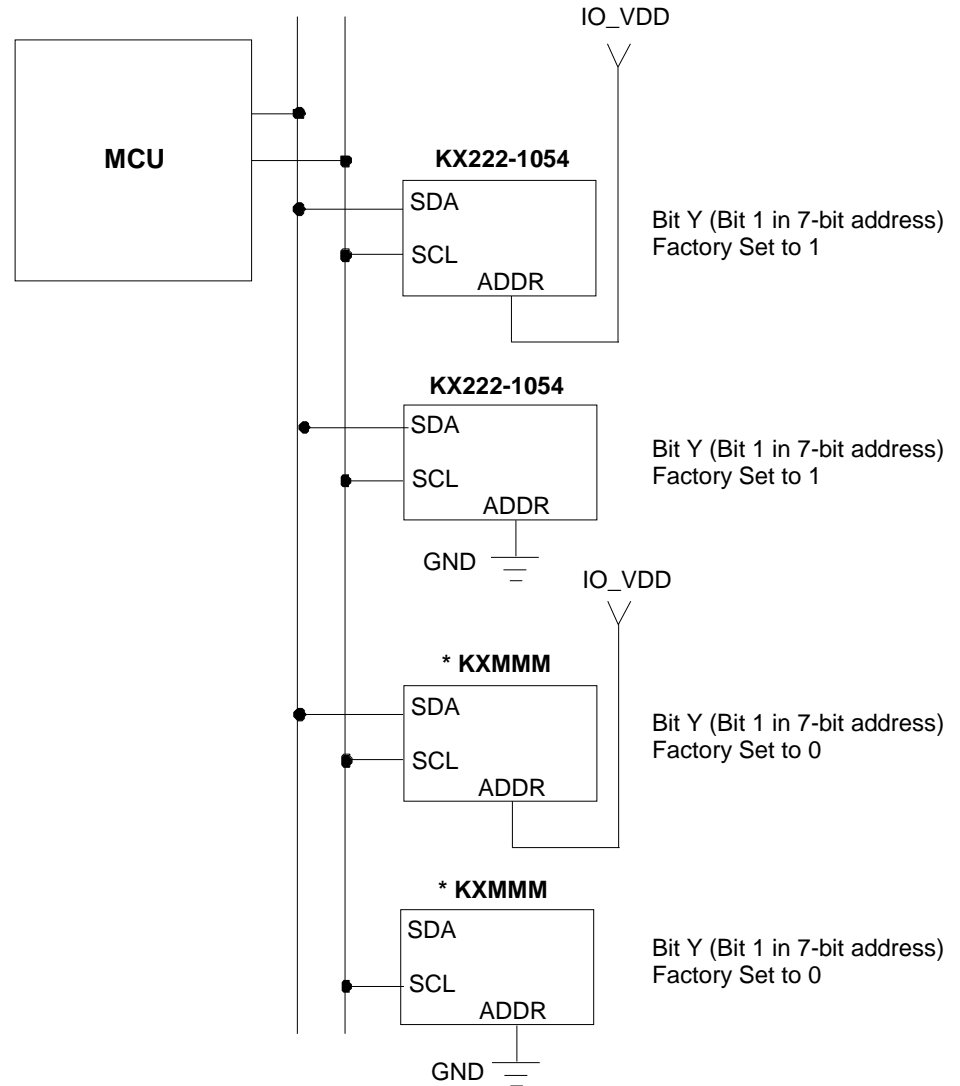

Figure 1: Multiple KX222 Accelerometers on a Shared I²C Bus
Transactions on the I²C bus begin after the Master transmits a start condition (S), which is defined as a high-to-low transition on the data line while the SCL line is held high. The bus is considered busy after this condition. The next byte of data transmitted after the start condition contains the Slave Address (SAD) in the seven MSBs (Most Significant Bits), and the LSB (Least Significant Bit) tells whether the Master will be receiving data ‘1’ from the Slave or transmitting data ‘0’ to the Slave. When a Slave Address is sent, each device on the bus compares the seven MSBs with its internally stored address. If they match, the device considers itself addressed by the Master. The KX222 Slave Address is comprised of a user programmable part, a factory programmable part, and a fixed part, which allows for connection of multiple accelerometers to the same I²C bus. The Slave Address associated with the KX222 is 00111YX, where the user programmable bit X, is determined by the assignment of ADDR (pin 1) to GND or IO_VDD. Also, the factory programmable bit Y is set at the factory. **For KX222-1054, the factory programmable bit Y is fixed to 1** (contact your Kionix sales representative for list of available devices). Table 6 lists possible I²C addresses for KX222-1054. As a result, up to four accelerometers can be implemented on a shared I²C bus as shown in Figure 1 on the next page (e.g. two KX222-1054 accelerometers and two other accelerometers with factory programmable bit Y set to 0).